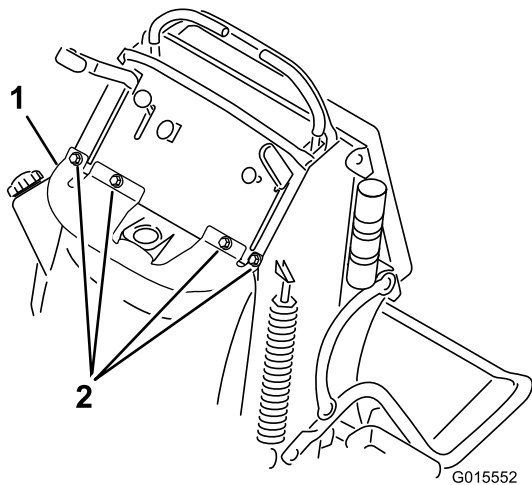

Figure 2
6. Remove the 4 bolts holding the bracket on top of the fuel tank (Figure 2).